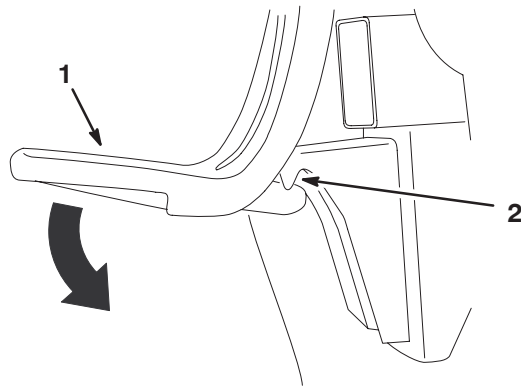

Figure 25
6. Push down on bagger latch until it locks into place (Fig. 25).
2. Unlatch the bagger latch (Fig. 25).
9. Latch the bagger hood (Fig. 25).